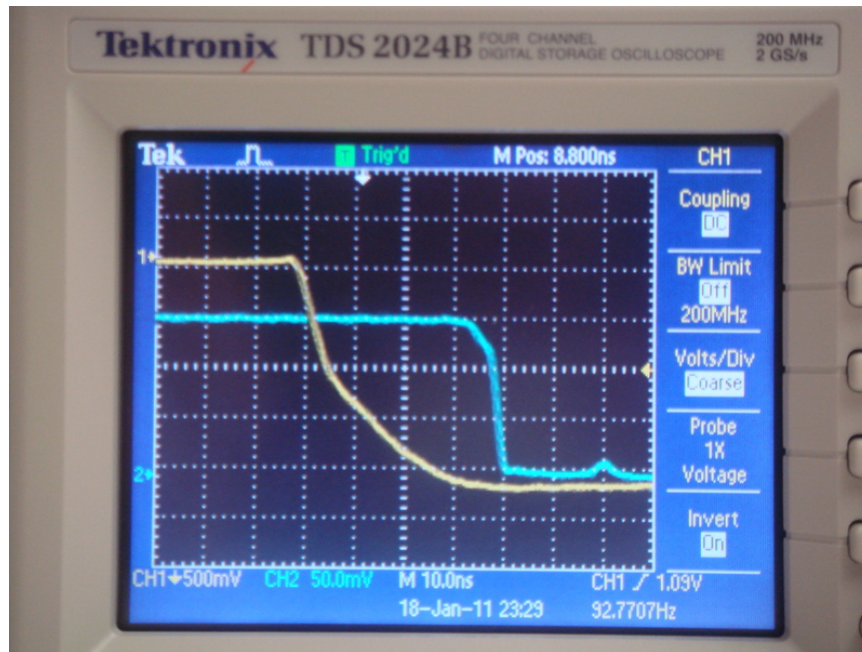

Figure 2: Oscilloscope display when experiment is working.
Once the pulse generator is correctly triggering the scope and laser, and the laser beam is returning on the detector, you should be able to see something similar to Fig. 2 on your scope. In this Figure, the yellow trace is channel 1. This appears to show the
- Pick a arbitrary point on the scope trace corresponding to the pulse generator (yellow curve in Fig. 2). Measure the delay between the electronic pulse and the light hitting the photodetector.